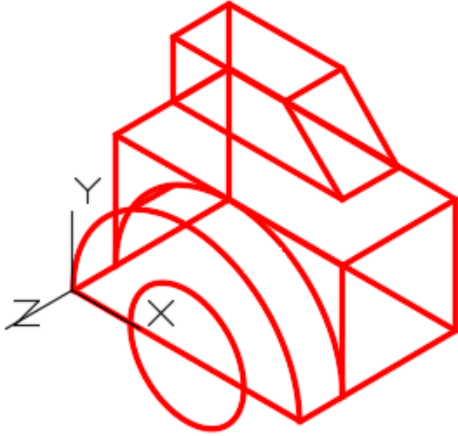

Figure Step 10A
Step 10 Using what you just learned, draw a 4 inch diameter circle locating its center at the midpoint of the bottom edge. Imprint the circle to the solid to form the arc. Extrude the arc through the solid to create a slotted arc through the solid. (Figure Step 10A and 10B)